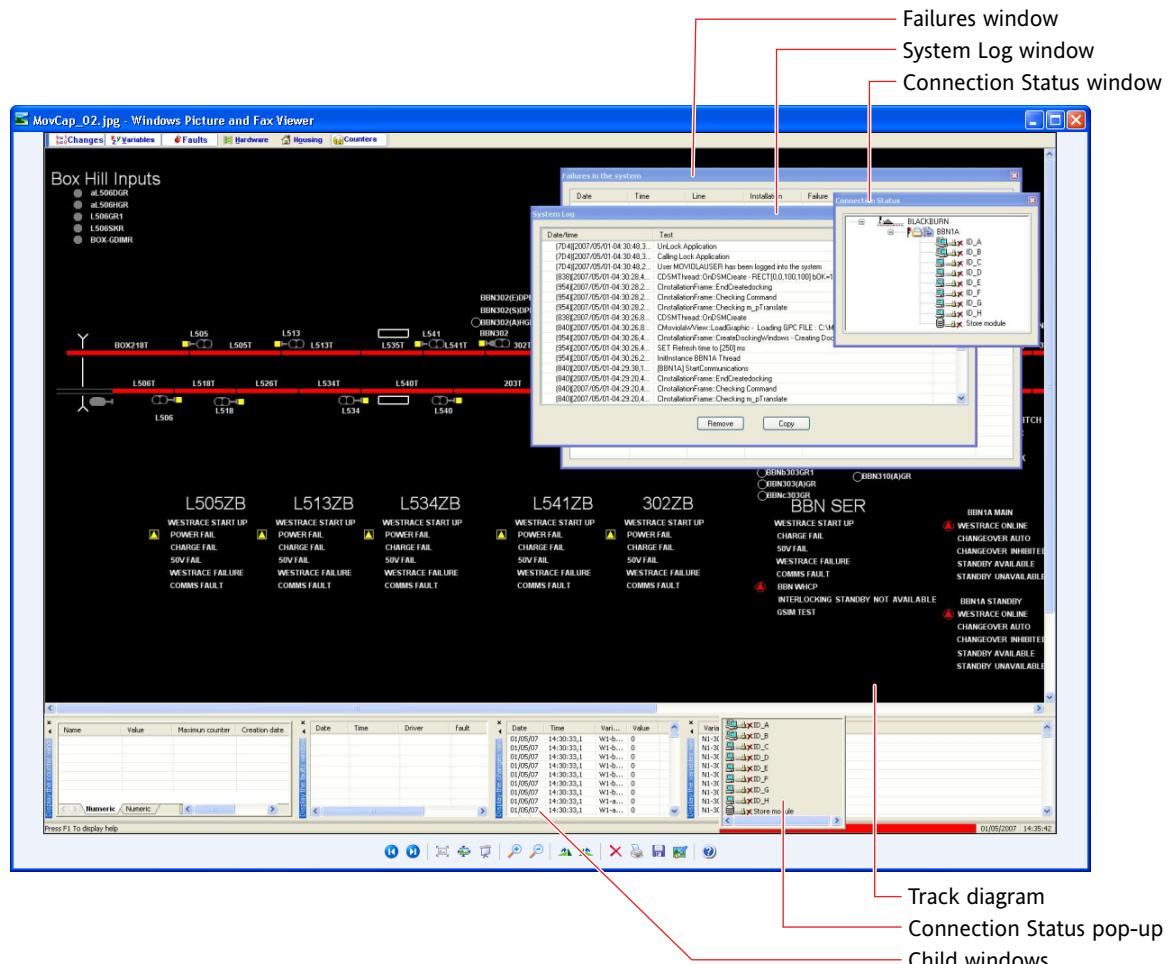

Figure 4.38 JPEG screen capture: screen elements that can be captured
- Open and arrange the screen elements you want included in the capture (figure 4.38).
- a) Open and arrange the screen elements (child windows, Failures window etc; see figure 4.38) as you want them to be printed.